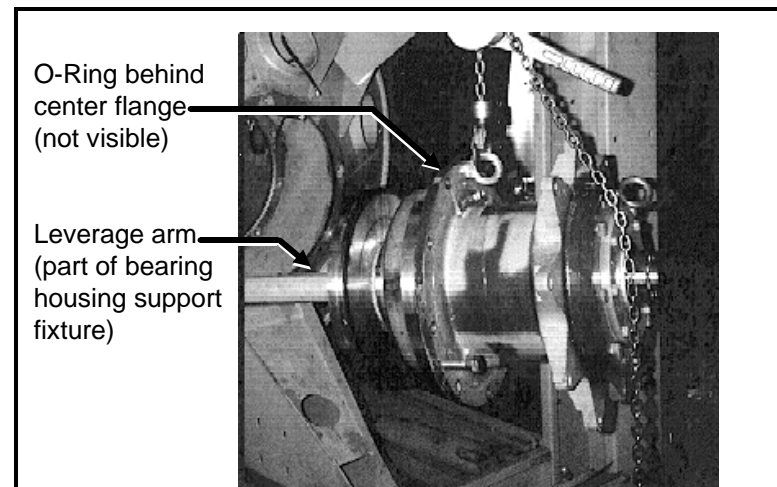

FIGURE 11 (MSSMA403AE)
1. It is essential that the large O-ring supplied with the new housing is in position on the front side of the housing center flange, as shown in FIGURE 11.